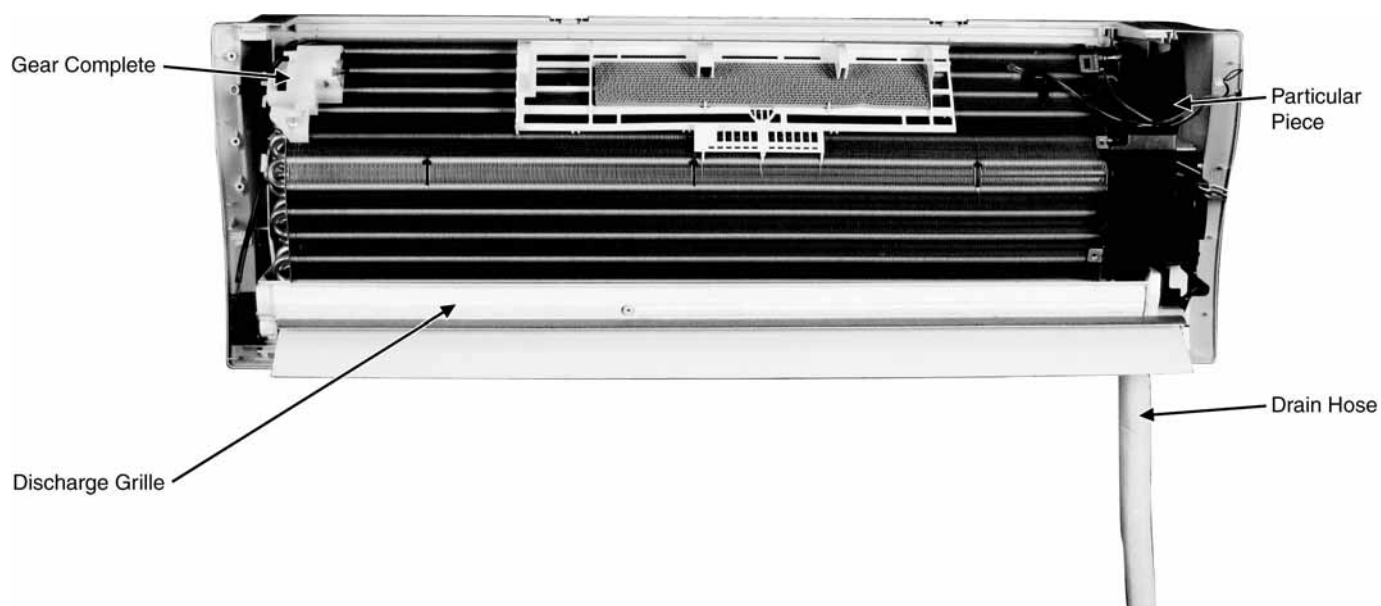

Fig. 9
1. Remove particular piece. (Fig.9)
2. Remove the drain hose from the unit. (Fig.9)
5. Pull the Discharge Grille downward then removed it. (Fig.9)